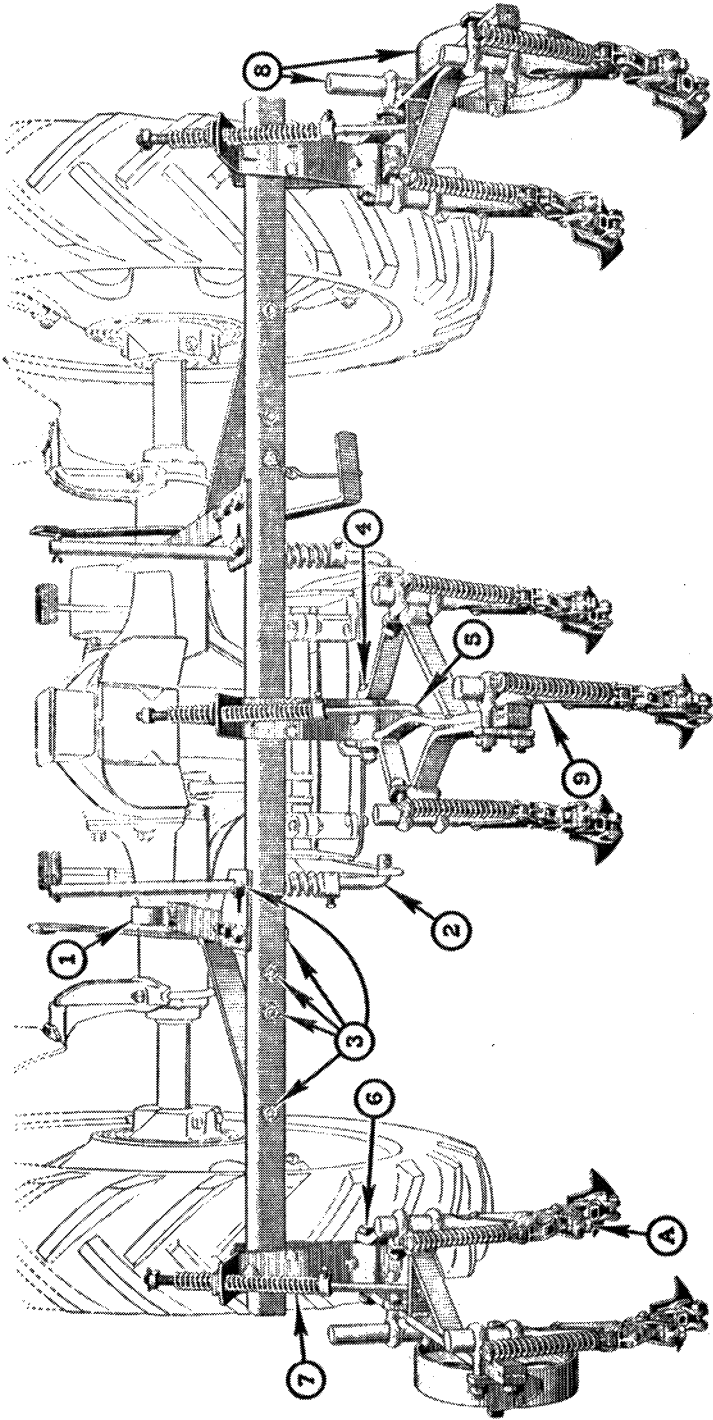

Fig. 2
**WARNING—**Loosen set screw in collars on lift rod (see 2, Fig. 2), and set collars down so there will be approximately 4 inches clearance between top of spring and bracket on angle.